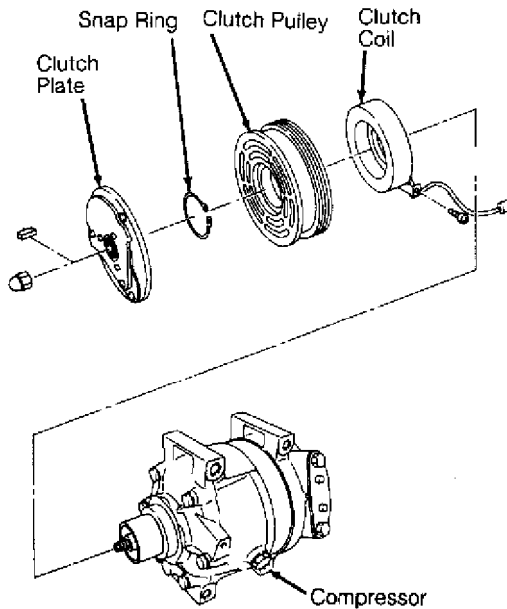

Fig. 3: Explode View of Compressor Clutch (Calsonic V5)
2) Use a universal gear puller to remove clutch pulley. See Fig. 3. Remove screw securing clutch coil ground lead. Use puller to remove clutch coil.